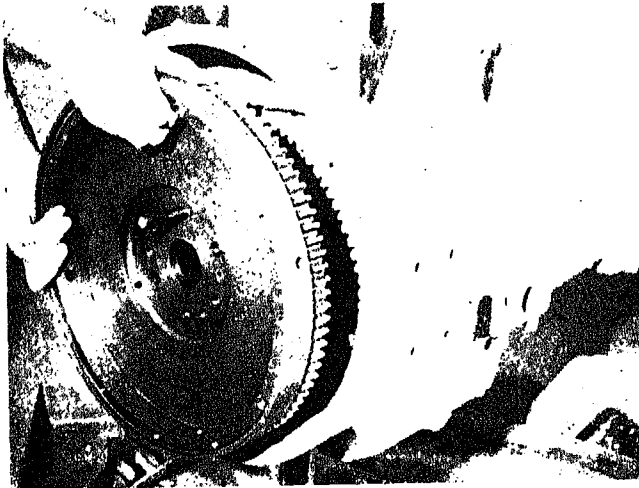

Fig. 0-39. Removing flywheel
2. Remove remaining capscrews and washers (if used) and pull flywheel from crankshaft, Fig. 0-39.